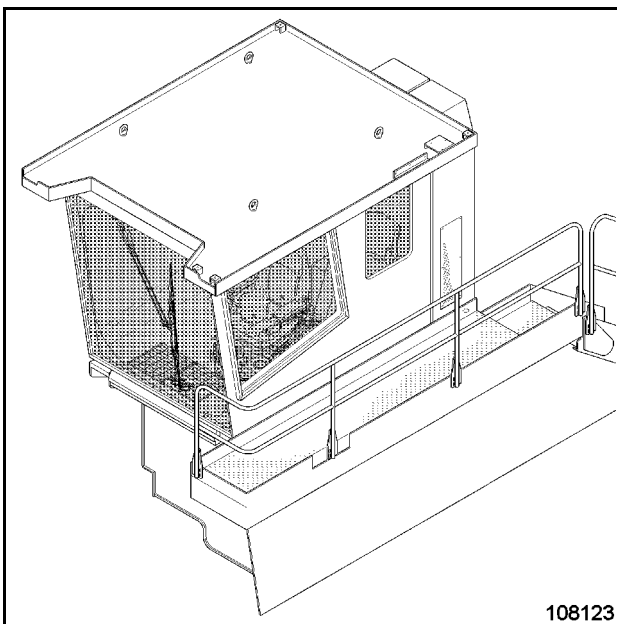

Fig. 3-168:
- Clean the outside of the cab windows from the walkways (see Fig. 3-168:).